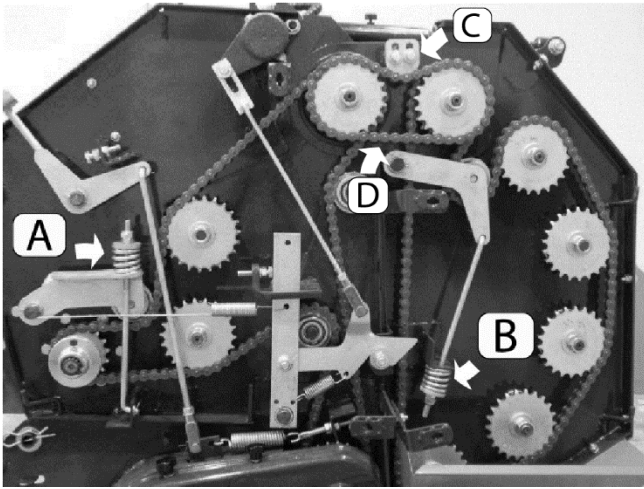

Figure 39 Left side of baler (chain tensioners)
Adjust main drive chain tension by shortening or lengthening tensioner springs (Figure 39, A,B) and by changing position of tension plate (C). Optimal spring length specifications are **1 7/16 inches (36mm) for spring A** and **1 1/2 inches (38mm) for spring B**. If the tension plate (C) is at the proper setting, the joint chain (D) should deflect **approximately 1/8 inch (3mm)** when pressed upward from below.